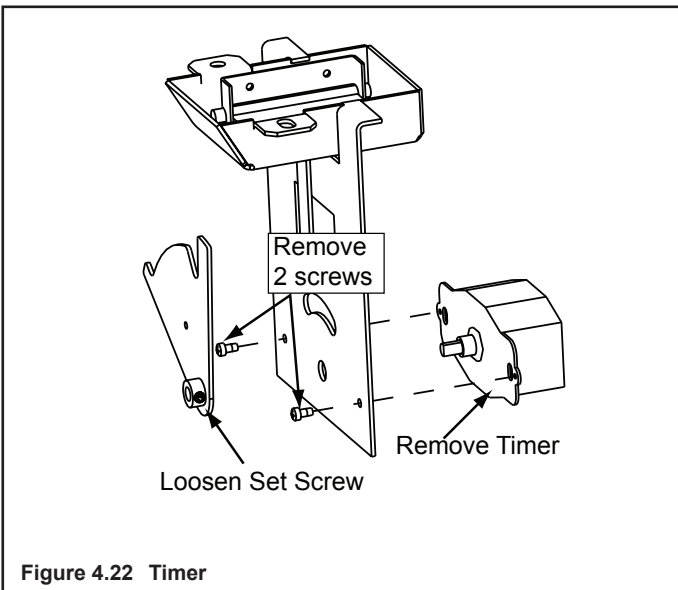

Figure 4.22 Timer
- Loosen set screw on timer, remove two screws and remove timer. See Figure 4.22.